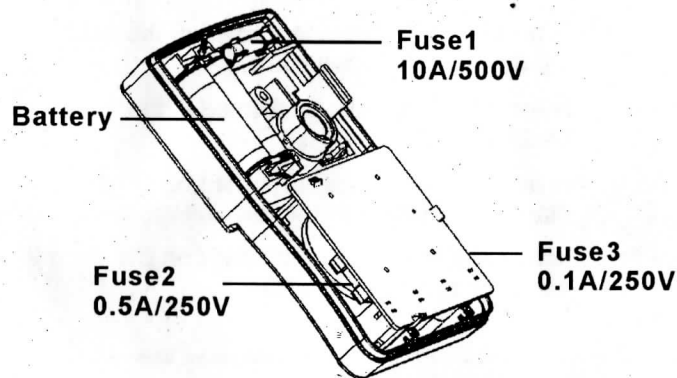

Fig. 1
- (1) When the fuse is blown, the tester fails to work.
- (2) Open the rear case, removal of the screw.
- (3) Replace fuse with new fuse, refer to Fig.1 And Fig.2 for its position.
- (4) Close the case and lock the screw.